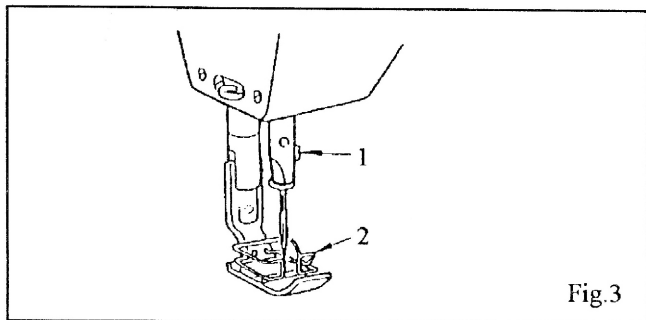

Fig.3
INSERTING THE NEEDLE (See Fig. 3)
Do not operate without finger guard (2)! (See Fig. 3)
Set the needle bar at its highest point. Loosen needle set screw (1). (see Fig. 3) Insert the needle in the needle bar and push it up as far as it will go. Make sure its long groove faces toward the front. Tighten needle set screw (1) securely.